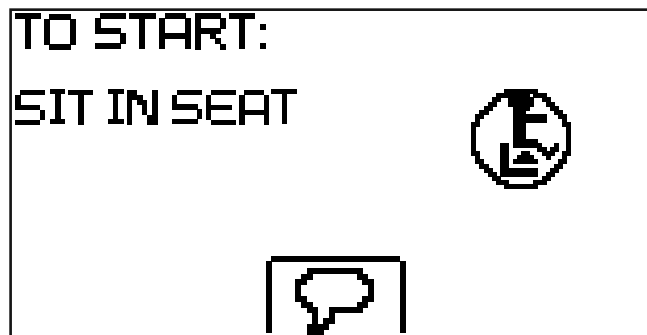

Figure 5-3
2. Sit in the rider seat. See Figure 5-3.